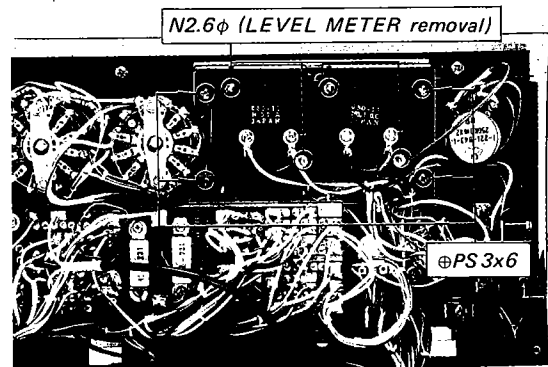

Fig. 2-6. Meter bracket removal
2. Remove the four screws ($\text{@ PS } 3 \times 6$) securing the meter bracket to the front subchassis as shown in Fig. 2-6. This frees the meter bracket.